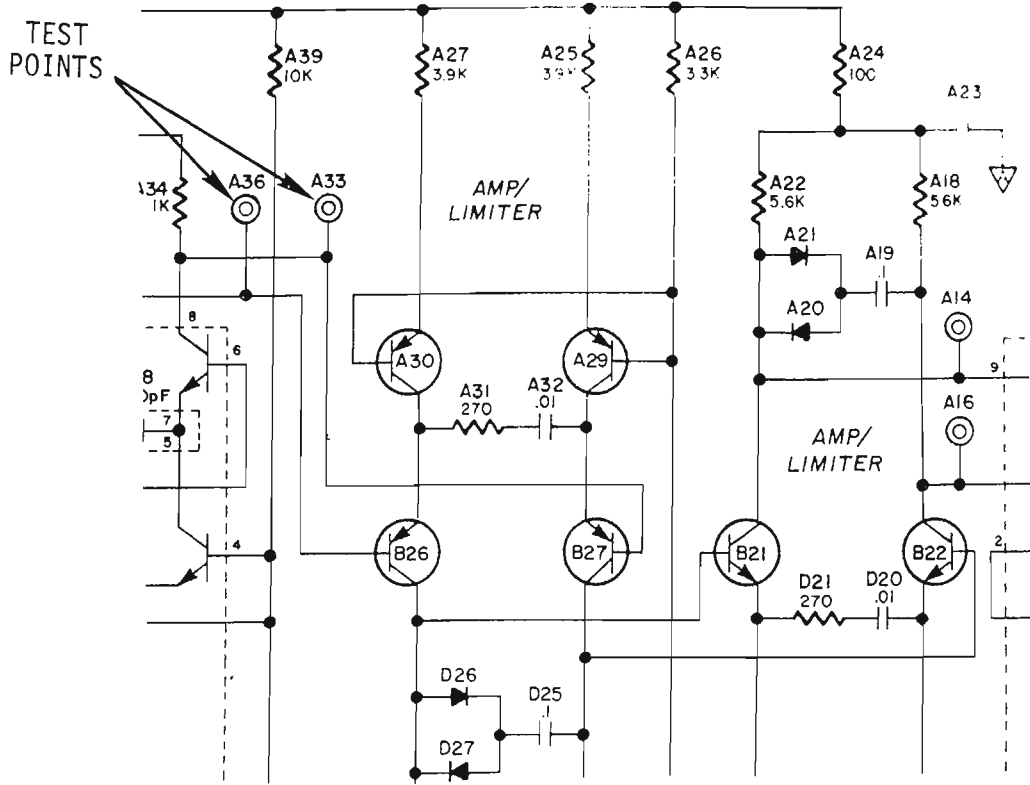
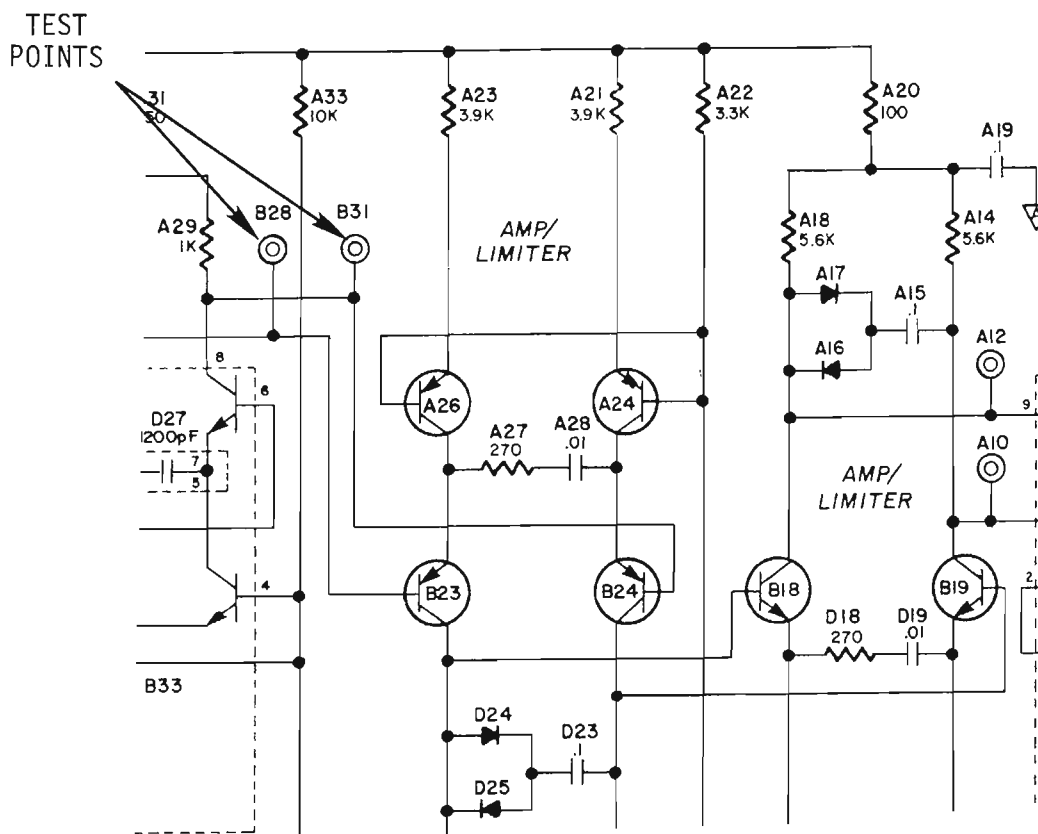

FIGURE 2 DATA TRANSFER BOARD #120146
FIGURE 3 DATA TRANSFER BOARD #120143
4. Connect the CH 1 scope probe to A33 or A36 on data transfer board #12046 (Figure 2), or connect CH 1 scope probe to B31 or B28 on data transfer board #12143 (Figure 3).